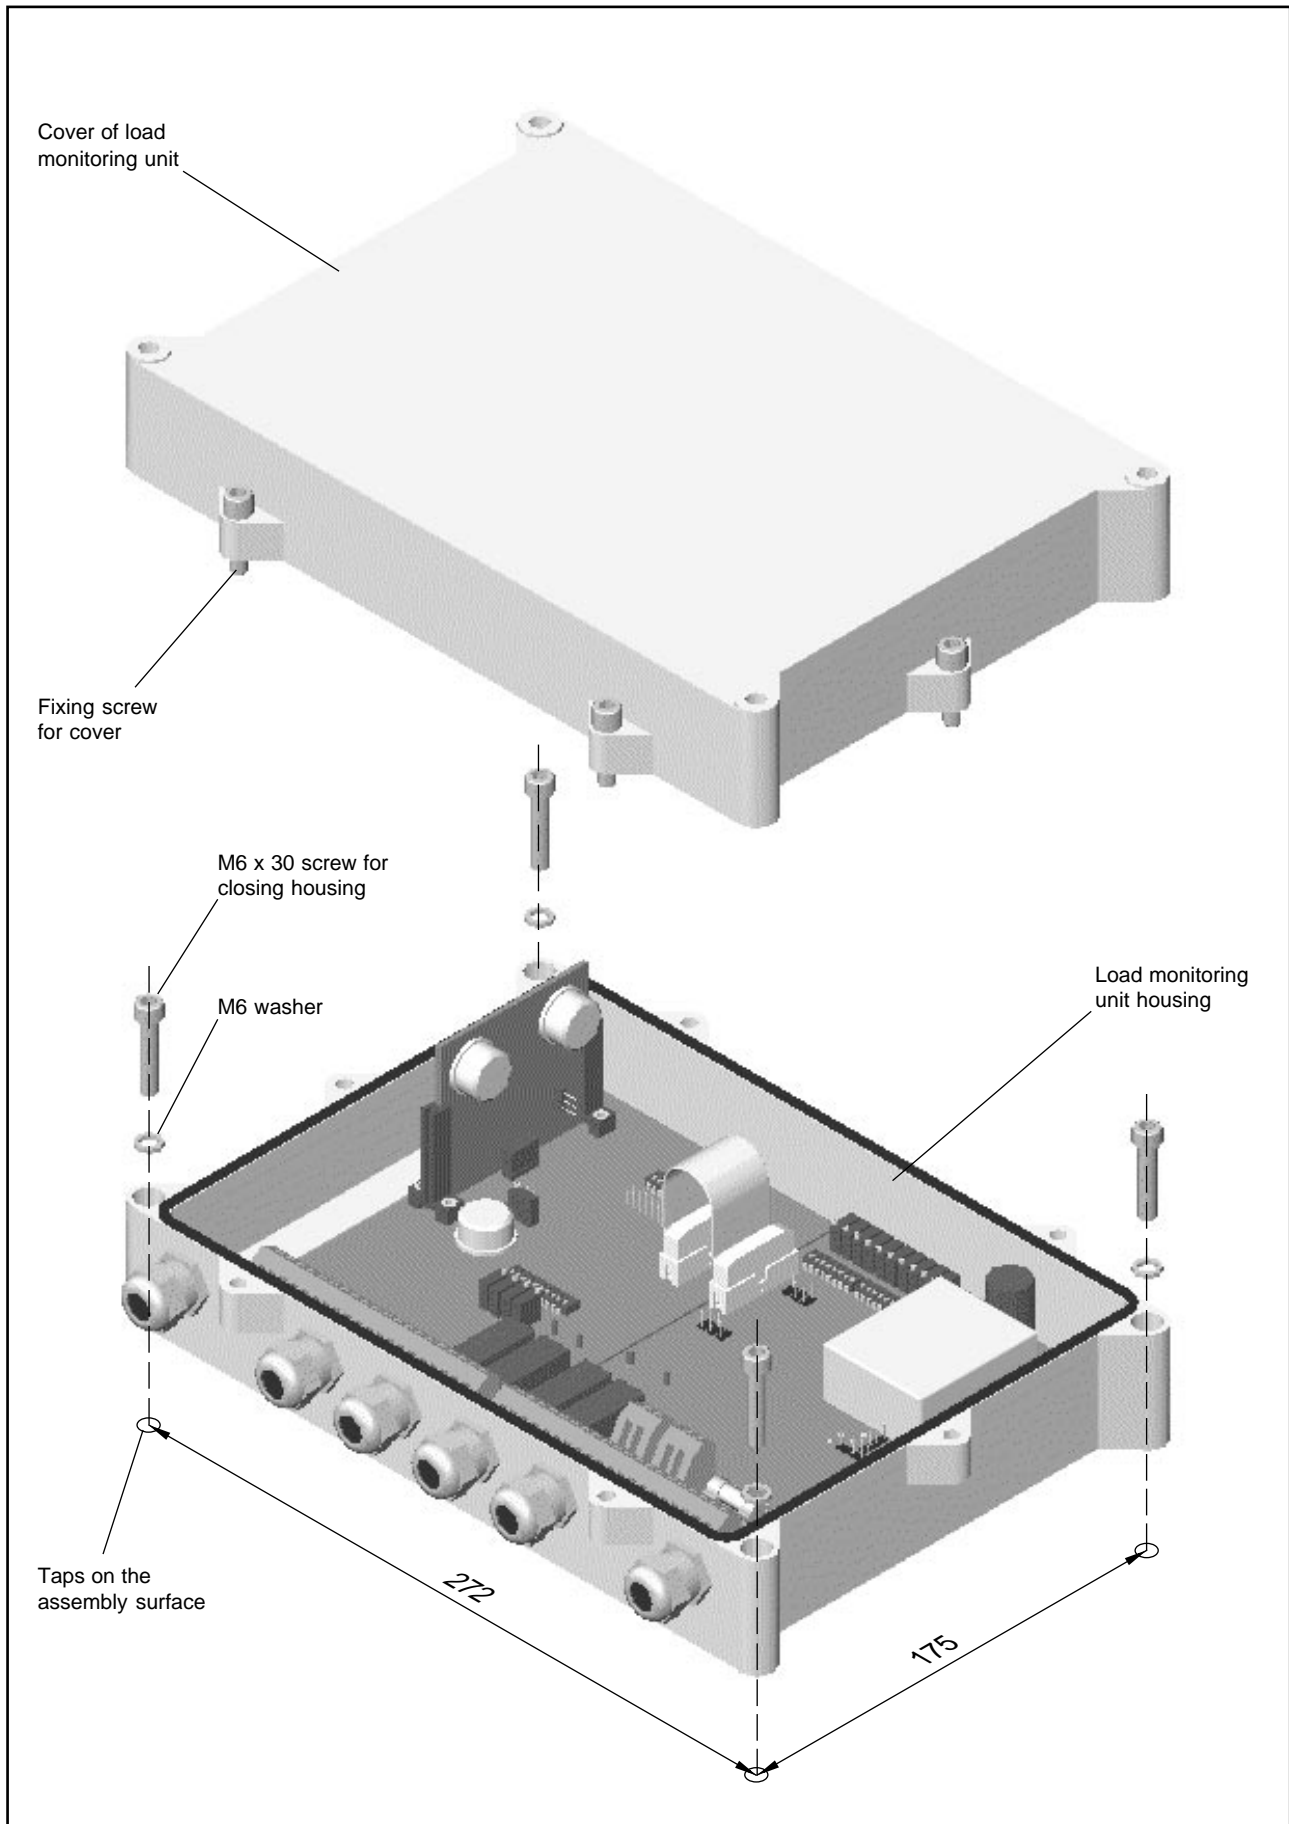

Fig. 4-1 : Installation of the LMU 116 load monitoring unit.
- Mark the position of 4 tapping points on the assembly surface (see Figure 4-1).
- Remove the cover of the load monitoring unit housing by unscrewing its six screws (see Figure 4-1).